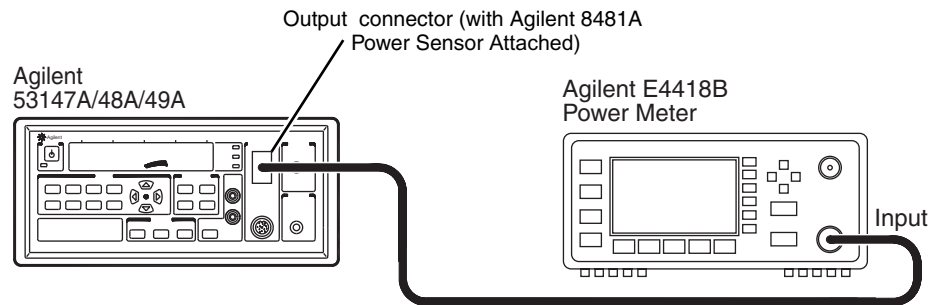

Figure 1-9. Power Meter Reference Level Test Setup
- 6 Disconnect the Agilent 8481A Power Sensor from the Agilent E4418B Power Meter, and immediately connect it to the Power OUTPUT connector on the Agilent 53147A/48A/49A (see Figure 1-9).